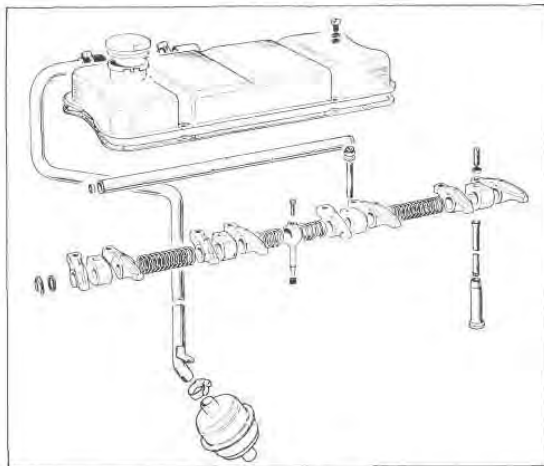

Fig. B19 — Rocker Shaft Assembly
2. Refit the support brackets, springs, and rocker levers in the correct order (Fig. B19). The support brackets are interchangeable and when fitting them ensure that the securing stud holes are to the right viewing the shaft from the front end, with each pair of rockers inclined away from each other at the valve end.